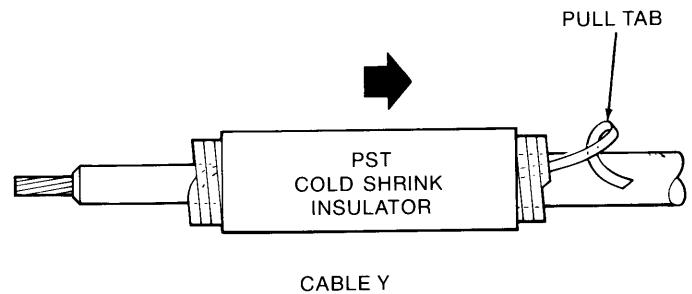

Figure 3
1. Slide longer PST Cold Shrink insulator onto cable "X" jacket and the shorter PST onto cable "Y" jacket directing pull tabs away from cable ends as shown in figure 3.